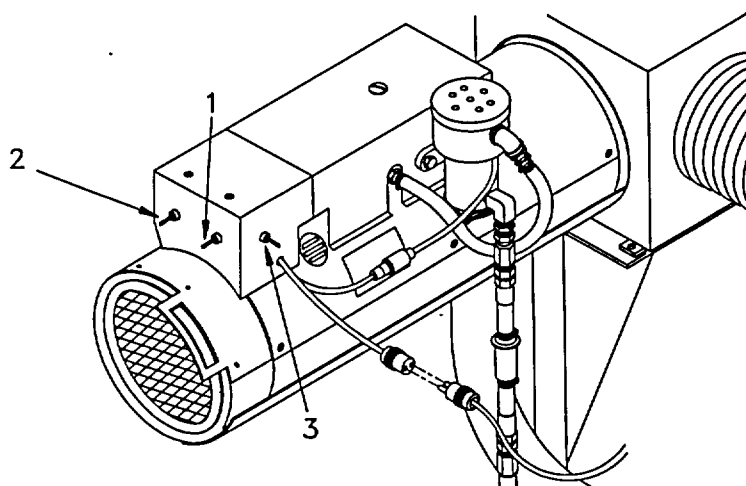

Figure 2-12. Heater And Fuel Pump Switches
I. Winterization Assembly. (Refer to Figure 2-12).
- (1) Heater Run-Off Start Switch (1). Turns the heater motor from "start" to "run".
- (2) Heater High-Low Switch (2). Adjusts heater for high or low heat settings.
- (3) Fuel Pump Switch (3). Turns the heater fuel pump on and off.